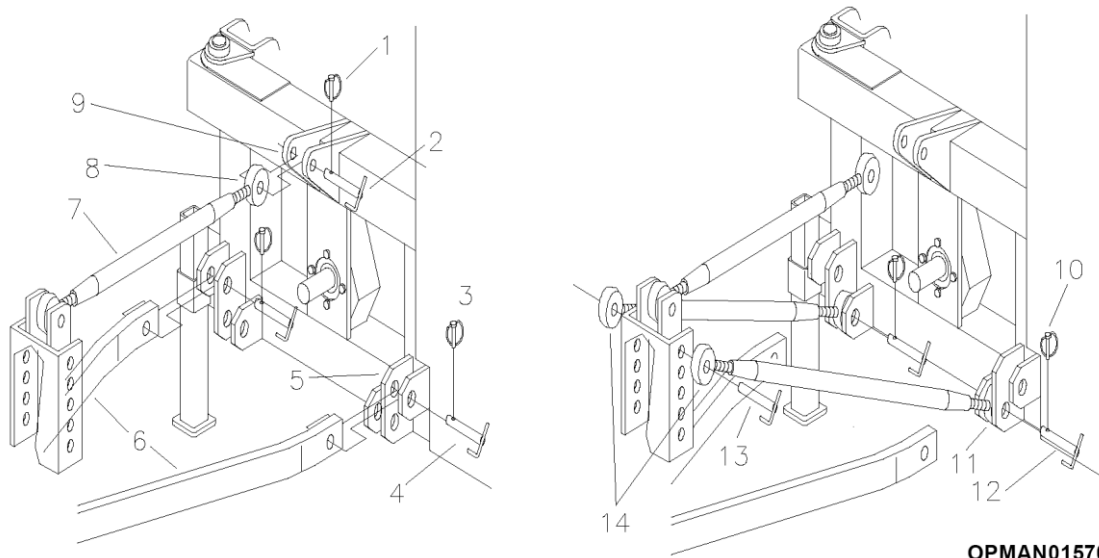

Figure 3.1
With reference to Figure 3.1, once in the right position, turn off the tractor engine, leave the lifting arm at its lowest point and lock the lever controlling it. Apply the handbrake, if necessary place the tractor in neutral and remove the key from the ignition. Place the arms of the lifting system (6) in the corresponding hitching points on the hedge cutter frame (5) and secure them, one at a time, with the pins (4) which must then be secured with the safety pins (3). Next insert the adjustable tie rod (7) into its corresponding position on the upper arm of the tractor and secure it with the pin which is supplied with the tractor.